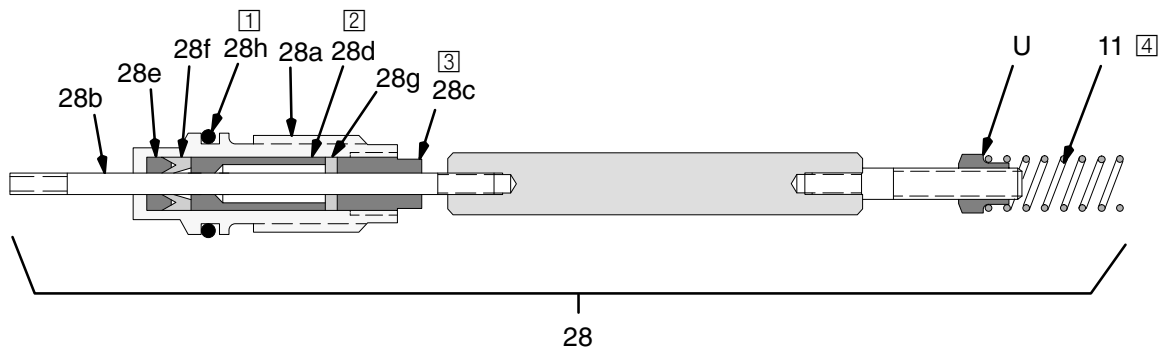

Fig. 24
7. *If the parts are purchased separately, assemble them as instructed in steps 8 to 11 and as shown in Fig. 24, on page 33.*
9. Fill the entire inner cavity of the spacer (28d) with petroleum jelly. Place the spacer on the fluid rod (28b), in the direction shown in Fig. 24. Generously apply petroleum jelly to the outside of the spacer.
10. Place the fluid packing (28f), needle packing (28e), and housing (28a) on the fluid rod (28b) as shown in Fig. 24.
14. Make sure the spring (11) is installed on the nut (U) as shown in Fig. 24.
16. Install and adjust the actuator arm (19) and jam nut (46) as instructed on page 34.
- 4 The spring (11) is not included with the fluid packing rod assembly (28).